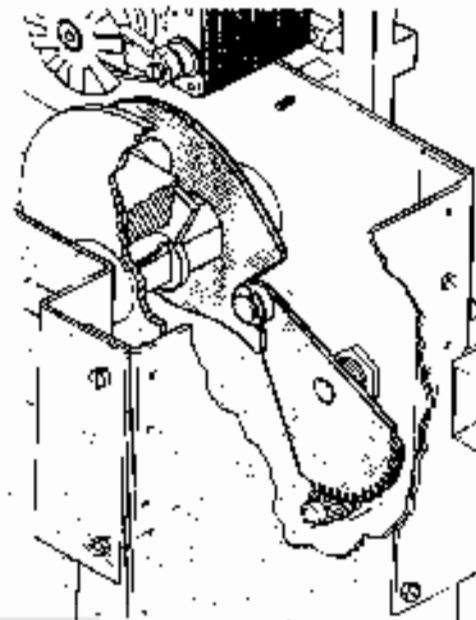

FIGURE 3.11
8. Confirm that the cam follower is in the deepest valley of the rear cam (See Figure 3.11) by cycling the brewer to this position. This position of the cam and follower guarantees that the brewer is in the dump position.
11. While holding the follower in the valley of the cam, (see FIGURE 3.11) install the outer section of the cable spool over the inner section. Release the follower and spool and check that the clearance set above is maintained. If so, make a new reference mark across the spool and rotate it counter-clockwise one tooth - proceed to Step 13.